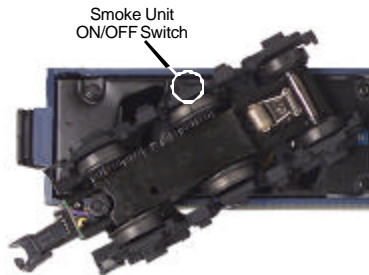

Figure 5. Smoke Unit ON/OFF Switch
3. If you choose not to prime the unit with fluid, turn the smoke unit switch located under the engine to the OFF position (see Fig. 5 on pg. 11). **Running the engine without a primed smoke unit may cause damage.** See the “ProtoSmoke Unit Operation” section of this book for more information on smoke unit maintenance.
If you choose not to add the fluid (or have already added the fluid but choose to run smoke-free), turn off the smoke unit switch located under the engine (see Fig. 5). **Failure either to add fluid to the unit or to turn it off may damage the smoke unit heating element and/or wicking material.**